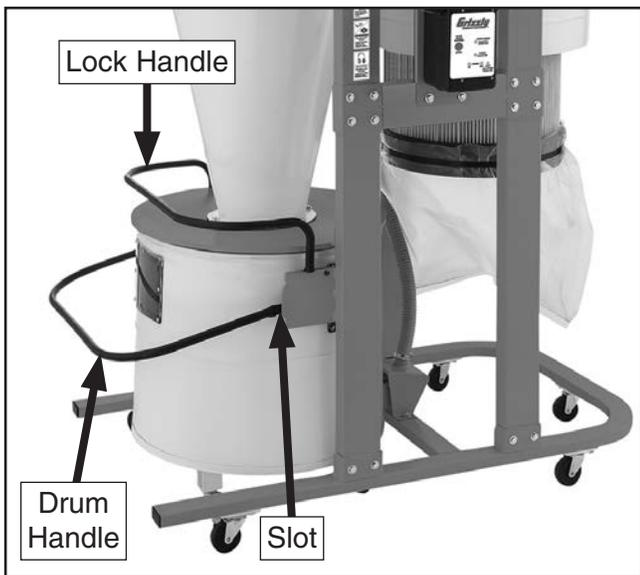

Figure 75. Collection drum properly secured to machine.
5. To connect collection drum to machine, lift drum handle and push drum in to align handle tabs with slots on legs. Push drum handle down to engage lock handle (see **Figure 75**).